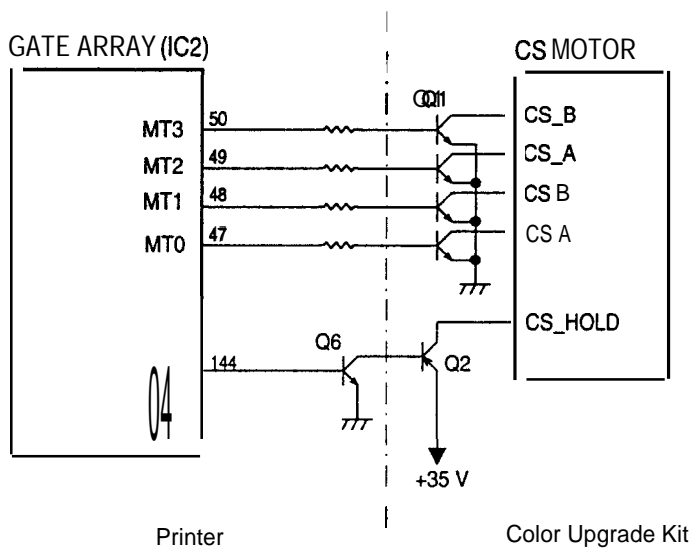

Figure 2-24. CS Motor Circuit
Figure 2-24 shows a block diagram of the CS motor circuit in the optional color upgrade kit. The CS motor is a permanent magnet (PM) stepping motor, driven with 2-2 phase excitation in proportion to the desired rotational speed. This motor can be rotated in either direction and stopped at any position. Four phase signals are directly output from the system IC and pass through a transistor array. The drive voltage is constant (i.e., +35 VDC from the VP line).